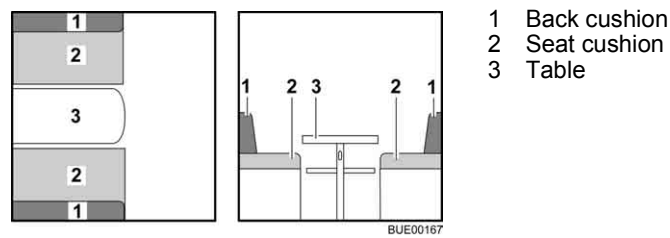

Fig. 70 Prior to conversion
- Convert the table (Fig. 70,3) to a bed foundation (see section 6.11).